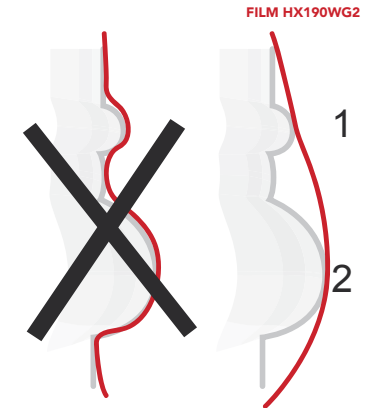

Fig.06
- › Apply the stretched vinyl over the substrate so as to have it stick only to the peaks of the undulation ((FIG. 06) ① and ②).